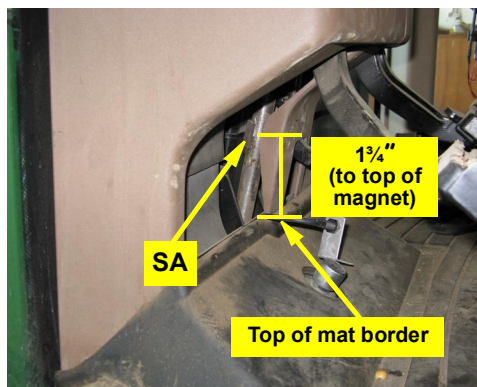

Figure 2: Magnets installed
- c. Using the epoxy, attach both magnets SA 180° from each other on the steering shaft (Figure 2).